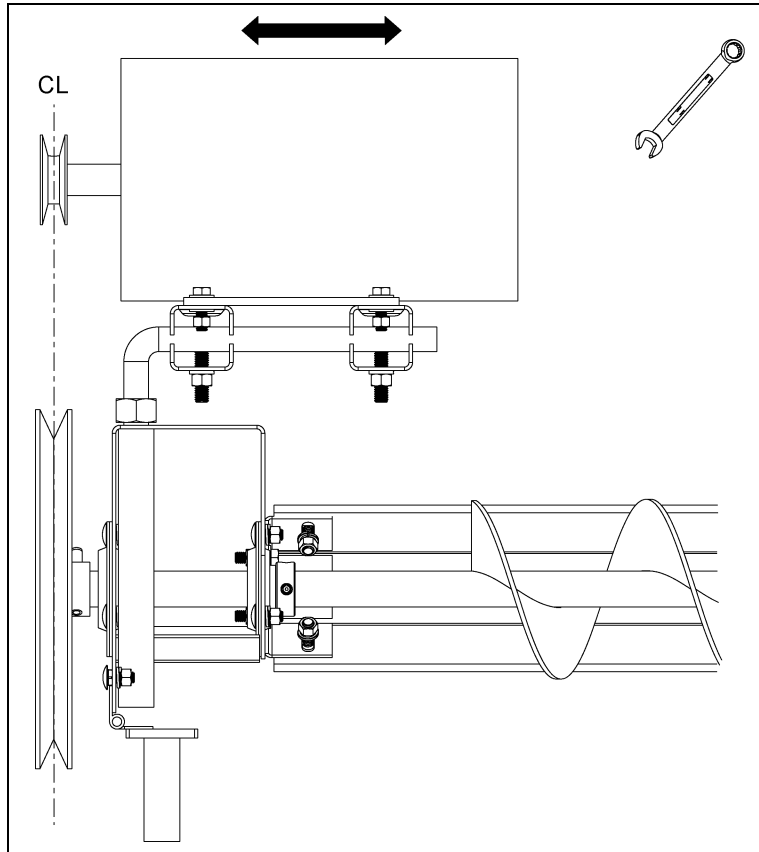

Figure 4T
Step 20: Position motor and tighten mount hardware. (See Figure 4T.)